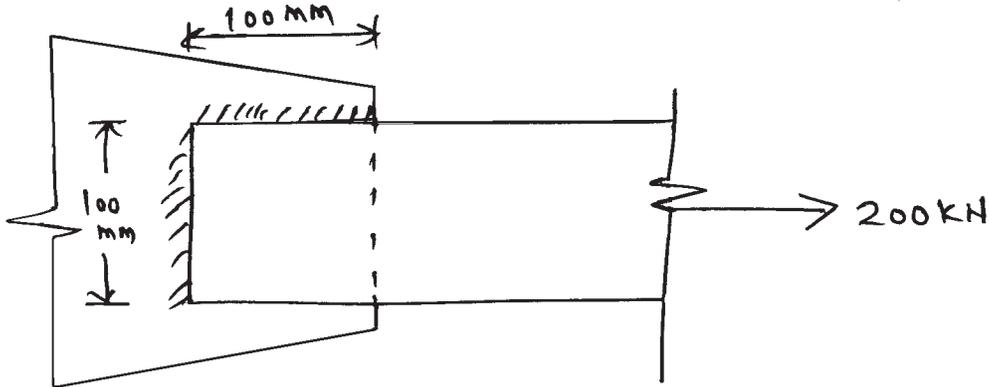

Fig. No. 1
- (iii) Calculate the size of fillet weld required for joint shown in following Figure No.1 to carry an axial force of 200kN.